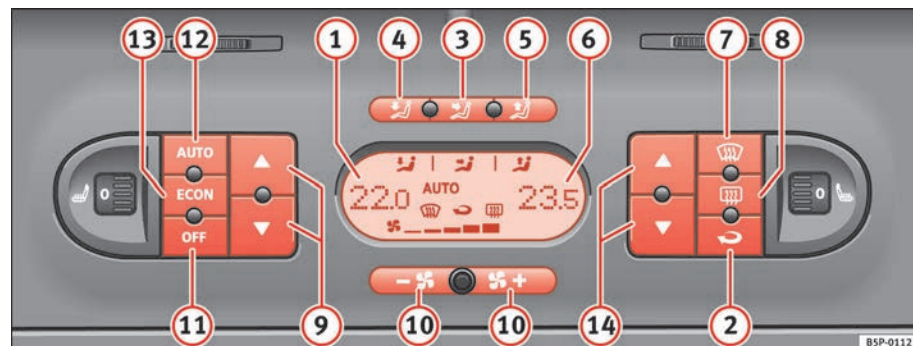

Fig. 133 On the dash panel: 2C Climatronic controls
- To enter manual mode, press one of the buttons ⇒ fig. 133 ③ to
⑤, (ECON) or press the air flow control ⑩. The symbol (AUTO) will disappear from the display. ▶
- Press the button  ⇒ page 158, fig. 133  to switch air recirculation mode on or off. It is switched on if the following symbol appears in the display .